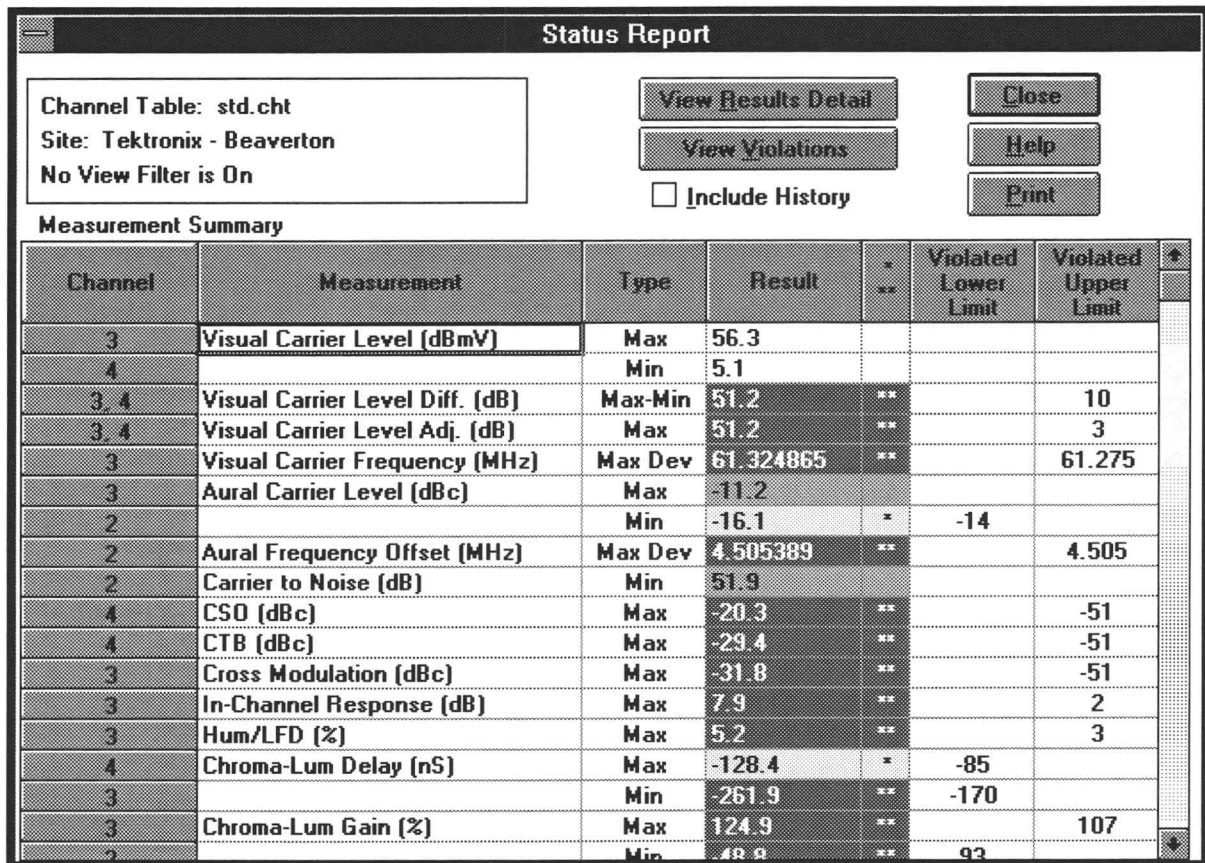

Figure 6-4. The Status Report.
2. To display the Status Report choose either the Status button from the Button Bar or Status Report from the View menu. This displays the Status Report dialog box as shown in Figure 6-4. The measurements are in the same order as they are in spreadsheet with the addition of the Visual Carrier Level (Adjacent) results. The worst case is listed for each measurement.